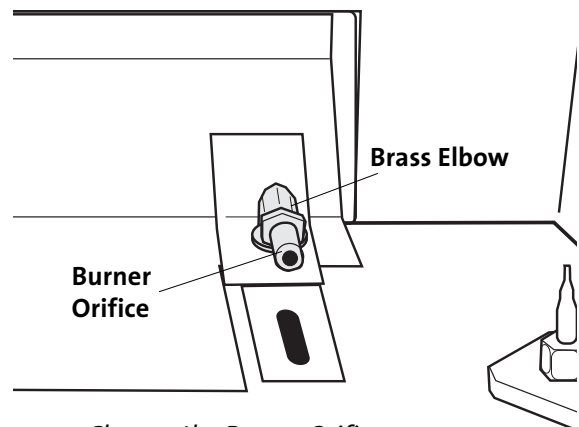

Figure 23. Change the Burner Orifice.
8. Change the Main Burner Orifice. See fig. 23. Using a 7/8" open ended wrench or deep-well socket remove the burner orifice from its brass elbow housing and replace with the appropriate orifice supplied in the kit.